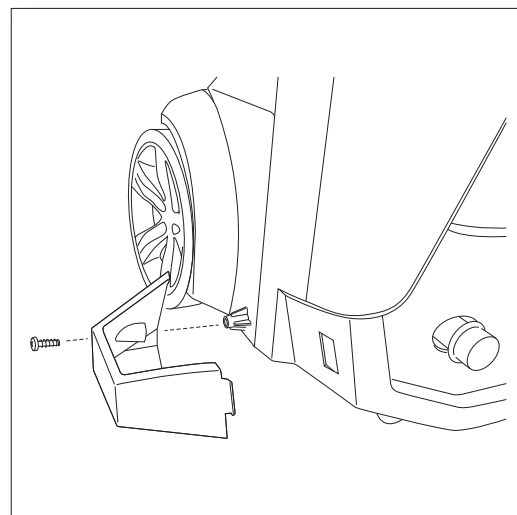

Fig. 3
- Slip tab into slot and screw the nozzle tray on the bottom portion of the unit. (**Fig. 3**) When placing the gun with the lance attached the nozzle will rest in this tray.